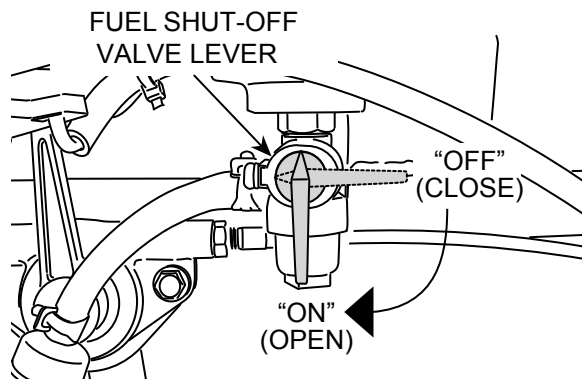

Figure 8. Fuel Shut-Off Valve
1. Open the fuel shut-off valve by moving the lever to the **ON** (open) position (Figure 8).